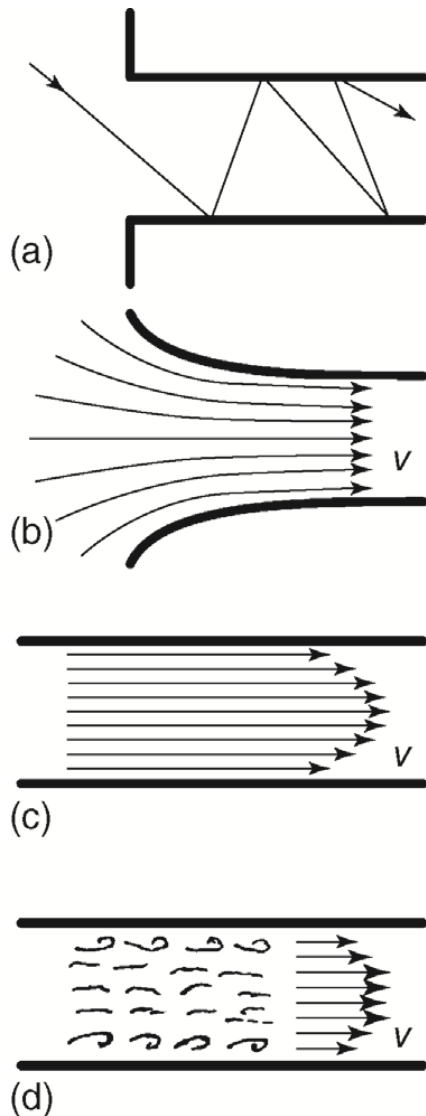

Figure 2 Different types of gas flows. (a) Molecular flow. (b–d) Different types of viscous flows: gas-dynamic (intake flow), laminar, and turbulent.
The situation is different in the case of viscous flow. Here, three types of flows in a tube are differentiated. The length of the tube determines the type of flow (Figure 2, b–d).
1. Initially, the gas has to leave a reservoir (vessel) to reach the entrance of the tube. Subsequently, it streams into the tube (Figure 2, b). Here, the gas accelerates from a quiescent state (velocity of flow equals zero) to a finite velocity of flow. This process requires acceleration energy that is taken from pressure energy (pressure drops) and thermal energy (temperature drops). Thus, as a volume element of gas travels along a path, velocity rises, and simultaneously temperature and pressure drop. For short distances, wall friction is usually negligible. This so-called intake flow is a particular type of gas-dynamic flow.
Now, the volume elements in the center of the tube move quicker than the volume elements at the boundary of the tube. Thus, a velocity profile develops across the cross section of the tube (Figure 2, c). This type of flow is referred to as laminar flow.
3. If, however, flow velocity is high, frictional forces are high as well because they are determined by flow velocity. A volume element, traveling at higher velocity and some distance from the wall of the tube, is deflected toward the wall by the decelerating action of the slower moving layers near the wall. The deflecting effects increase with friction and thus velocity, whereas the inertia of mass, which tends to preserve the direction of flow, remains unchanged by a change in velocity. Thus, for sufficiently high velocities, deflecting forces dominate and the flow shows turbulences and eddies (Figure 2, d).